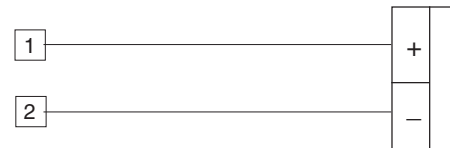

Fig. 5.3
- Provide connections between calibrator and instrument under test as shown in Fig. 5.3.
- a) Set the calibrator to 60.000 mV for TC inputs (see Fig. 5.3).